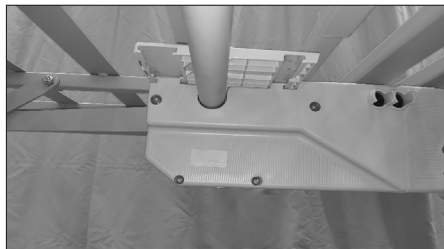

Fig.12
3. Close the mechanism compartment with the covers, sliding them to the side, taking care not to detach the motor from the sections (**Fig.12**)